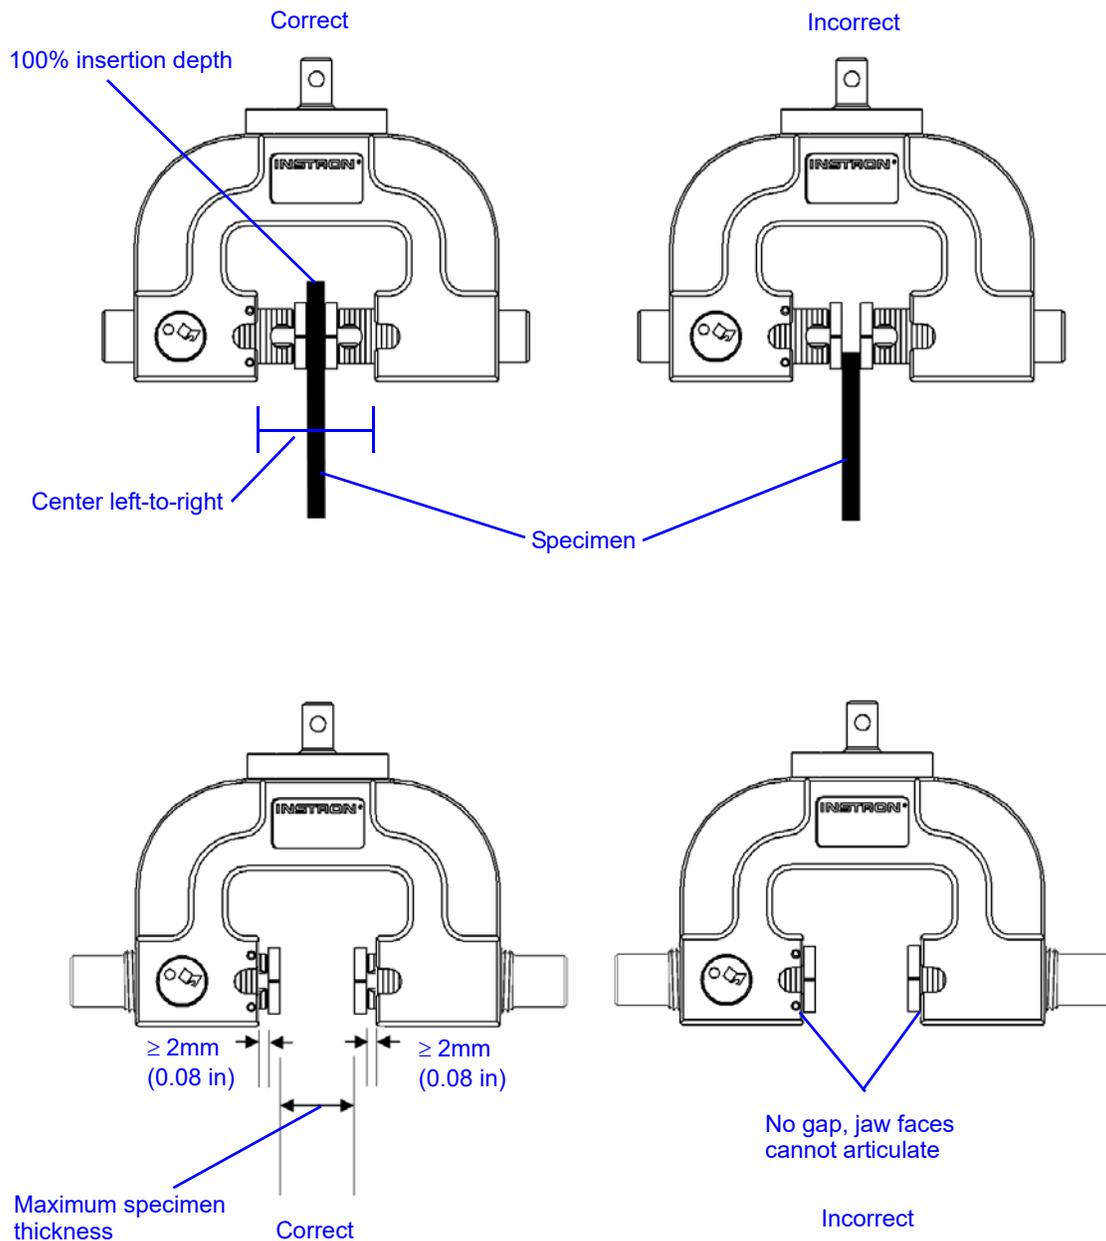

Figure 4-1. Proper Specimen Placement
2. Position the specimen in the grips so it engages the entire length of the jaw faces (100% insertion depth), as shown in Figure 4-1 on page 4-3. Ensure that the specimen is centered forward-to-back. Hand tighten the screw knobs only enough to prevent the specimen from falling out.
3. Center the specimen in the grips. Make sure the specimen is perpendicular and contacts the entire length of the grip faces as shown in Figure 4-1 on page 4-3.
Ensure that there is a gap of at least 2.5mm between the jaw faces and the grip body, as shown in Figure 4-1 on page 4-3. This provides sufficient clearance for the jaw faces to articulate.
5. Starting with the upper grip, adjust the screw knobs so that the specimen is centered left-to-right, as shown in Figure 4-1 on page 4-3. Use the engraved scale on the jaw holder to aid in doing this.